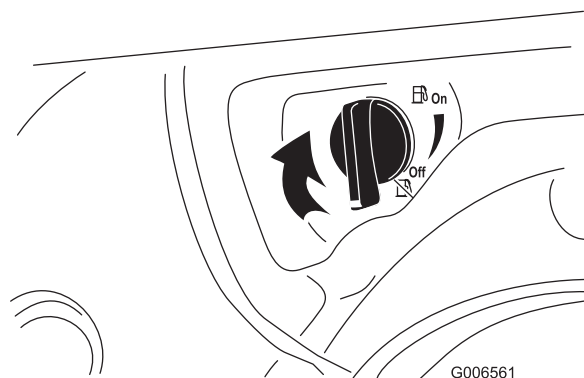

Figure 29
4. Close the fuel shutoff valve by rotating it clockwise (Figure 29).